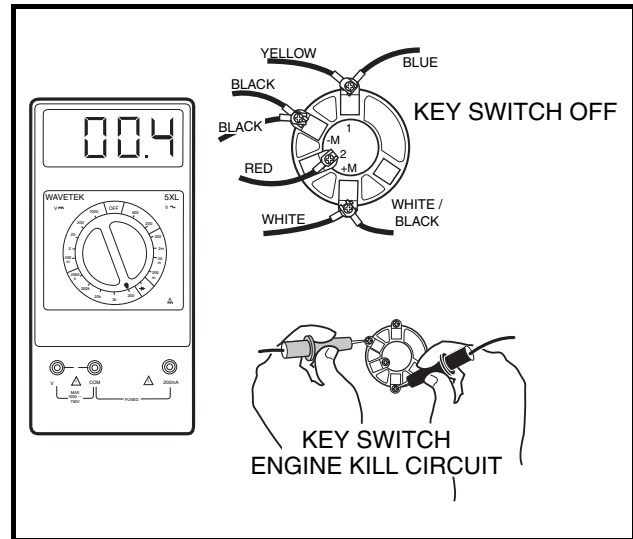

Figure 11-28 Test Key Switch – Engine Kill Circuit
4. Place the red (+) probe on the (+M) terminal and the black (-) probe on the (-M) terminal. With the key switch OFF, the reading should be continuity. With the key switch ON, the reading should be no continuity. If either reading is incorrect, replace the key switch (**Figure 11-28, Page 11-27**).